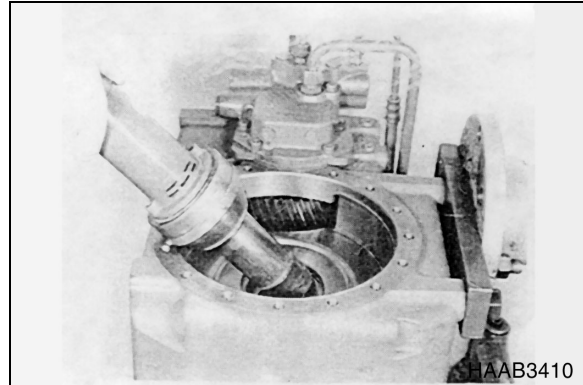
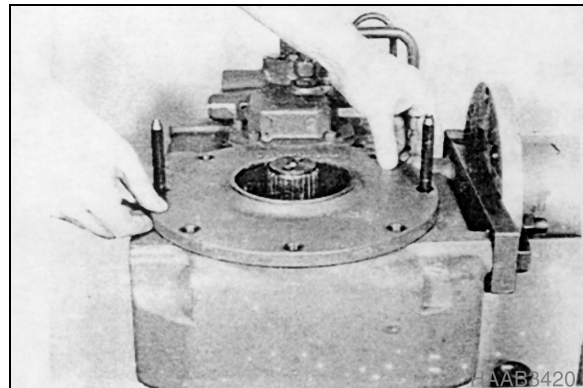

Figure 287
Figure 288
9. Heat ball bearing (Figure 287), install two adjusting screws and assemble bearing cap until contact is obtained. (Figure 288)